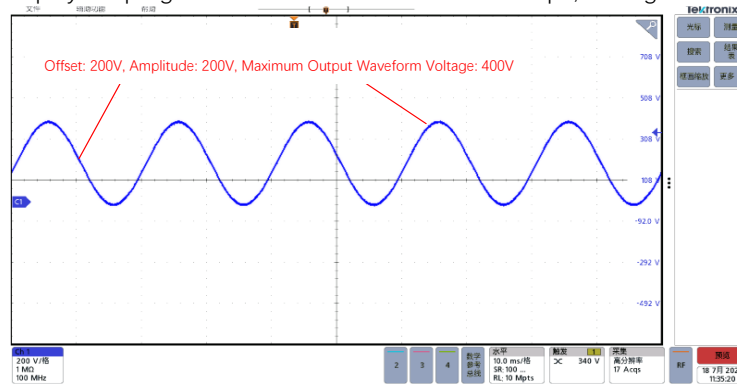

Figure 192 Arbitrary Wave Programming Waveform Example Figure
- 4) Click 'Trigger' to display the programmed waveform on the oscilloscope, see Figure 192